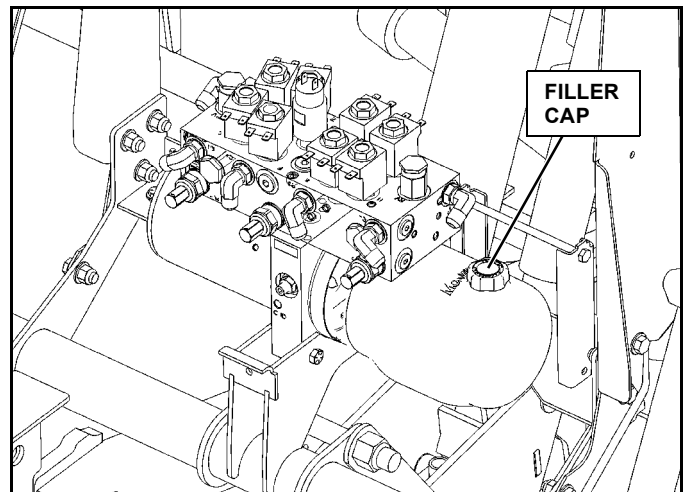
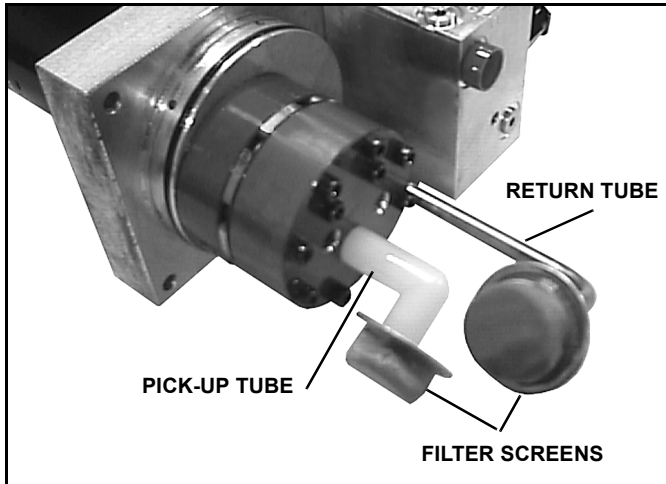

Figure 2-5
Figure 2-6
4. Remove the filler/breather cap from the reservoir. (See Figure 2-5.)
9. Loosen the band clamp which holds the oil reservoir to the pump assembly. Pull and twist the reservoir unit it separates from the pump assembly. Be careful not to damage the filter screen. (See Figure 2-5 and Figure 2-6.)
10. Note the position of the reservoir oil pick-up tube and be sure the tube is in the same position when the filter is removed and installed. (See Figure 2-6.)
13. Visually check that the pickup tube and filter face down. (See Figure 2-6.) If not, rotate the pickup tube until the tube and filter face down.